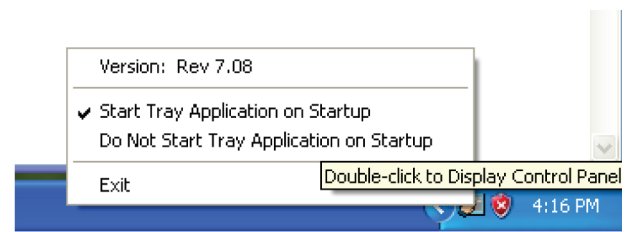

Figure 5
1. The T/S Controller Bar Tray icon (Figure 5) is installed by default. This is necessary on systems requiring